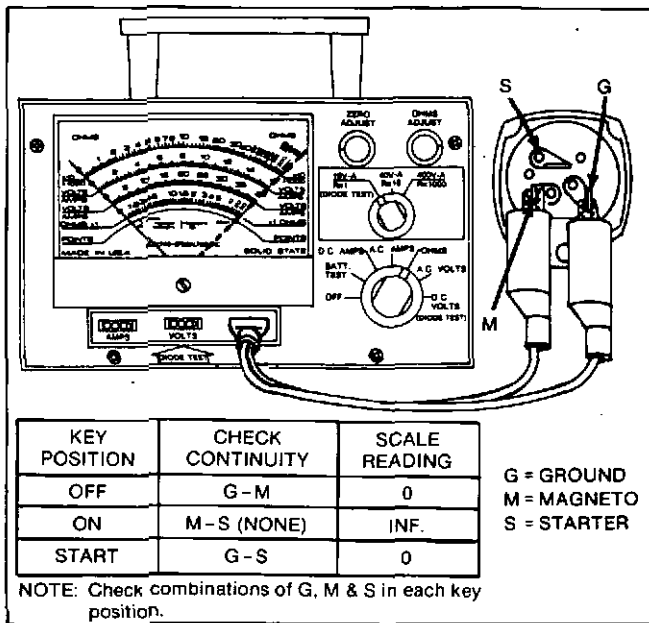

Fig. 53 — Starter Key Switch
- Faulty starter switch (open circuit). See Fig. 53.
Test key switch as noted in Fig. 53. Replace switch if not as shown under column, "Check Continuity."